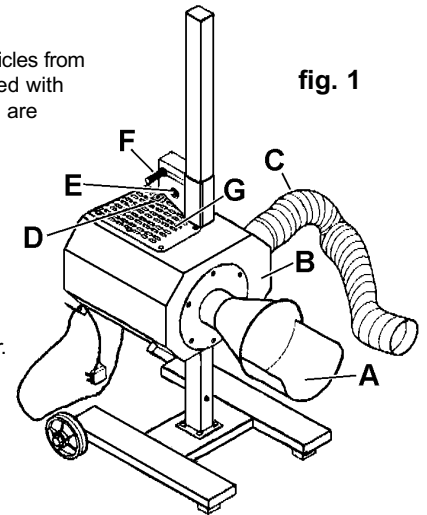
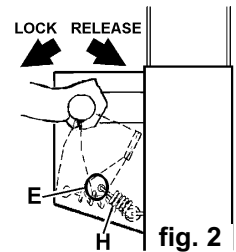

fig. 1
fig. 2
- 3.2. Attach extractor nozzle (fig.1.A) to housing (B) with the four screws and washers. Fit exhaust ducting (C) with jubilee clip.
- 4.2. Place the extraction nozzle (fig.1.A) close to the vehicle exhaust pipe, adjusting the extractor height as necessary by rotating grip (fig.1.F) as shown in fig.2 to release and lock the slide. The mechanism is held in the locked position by a spring (fig.2.H). This spring should be checked, through aperture (figs.1 & 2.E), to ensure it is attached at both ends and undamaged before unlocking slide. If the spring is faulty it must be rectified/replaced before further use.
- 4.3. Route the exhaust ducting (fig.1.C) to outside the building, keeping the ducting as straight and level as is practical. Note that the ducting is relatively easily damaged and should be routed, as far as possible, away from walkways etc.
- 4.4. Connect to the mains supply and turn on extractor at switch (fig.1.D).